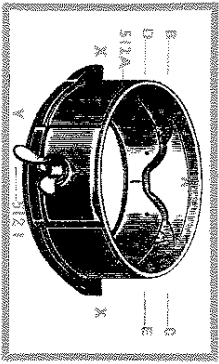

Fig. 5
The cam shell (Fig. 5) contains the steel cams, A, B, C, which raise and lower the cylinder or plain needles; it rests upon the base and is kept in position by the cylinder round which it revolves. The stitch cam A is adjustable by means of the wing nut (512F) on the outside of the cam shell. Between this wing nut and the shell is a pointer (512E) which indicates upon the index plate (512L) the position of the stitch cam (A). The lowest point (6) makes the longest stitch or loosest tension, and the highest point (1) makes the shortest stitch or highest tension. The large wing nut (512F) is for securing the ribber arm (513A) to the cam shell. The two lugs (X) on opposite sides are for driving the cam shell; the one on the left drives forward and the one on the right drives backward. Round the inside of the cam shell is a ledge on which the feet of the needles rest, when not being raised or lowered by the cams A, B or C. Cams B and C raise the needle, cam A depresses the needle and the cover plates (D and E) of cams B and C raise the needles on to the ledge again after cam A has depressed them.